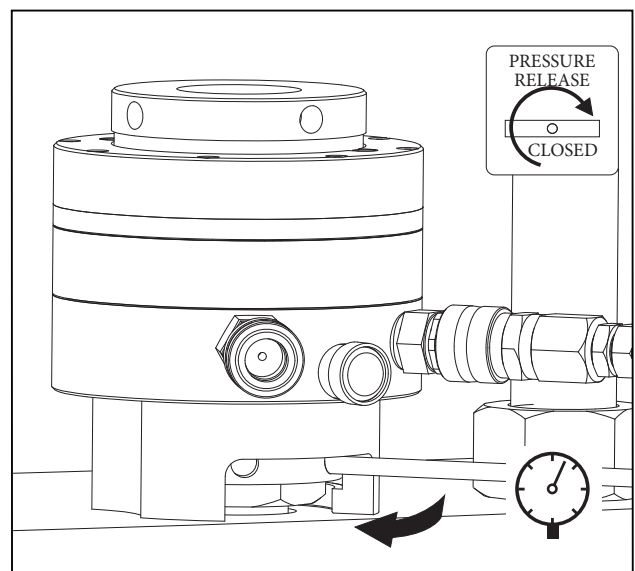

FIGURE 8, TURNING DOWN THE SOCKET
7. While holding the pressure constant, use a tommy bar to turn down the first socket and nut by hand. Continue tightening until the nut is firmly seated against the joint surface. See figures 8 and 9.
8. While holding the pressure constant, use a tommy bar to turn down the first socket and nut by hand. Continue tightening until the nut is firmly seated against the joint surface. See figures 8 and 9.
19. While holding the pressure constant, use a tommy bar to turn down the first socket and nut by hand. Continue tightening until the nut is firmly seated against the joint surface. See figures 8 and 9.